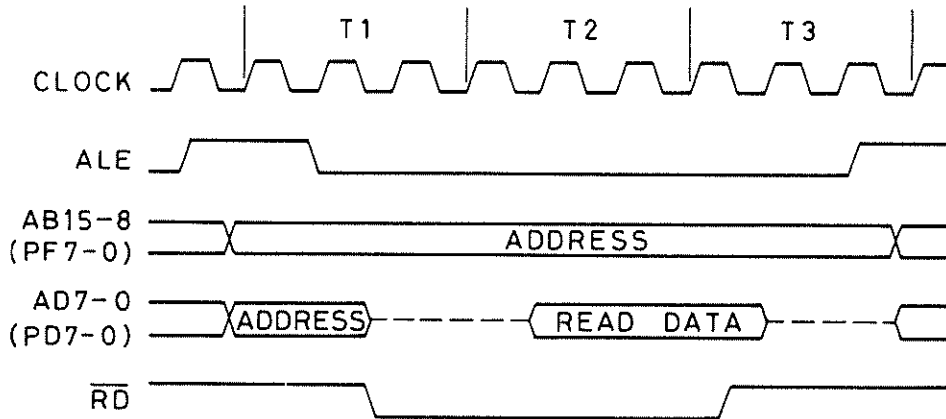

Fig. A-4. Memory Read Timing
- 2) Memory Read Timing (See Fig. A-4)